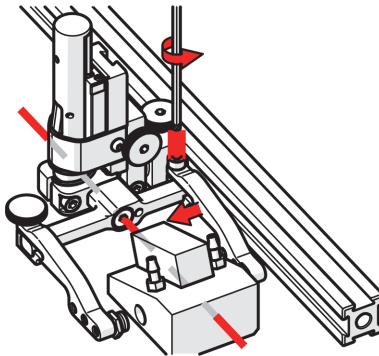

Figure 2-74 Adjust inner arm
1. Position the wedge on the inner probe holder arm (see Figure 2-74 on page 97).